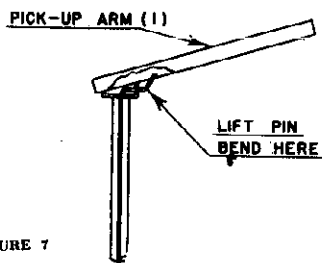

FIGURE 7
Readjust end of Lift Pin (23) so the needle will play first record. (See Figure 7.) (Note: Do not bend Lift Pin (23) to much as this will prevent playing of to record on full stack.)